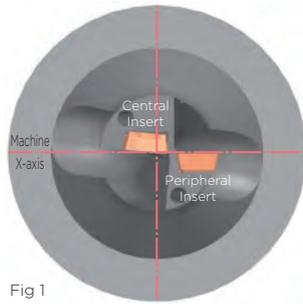

Fig 1
- Set the drill so that the peripheral insert is parallel to the X-axis of the machine. (Fig 1)